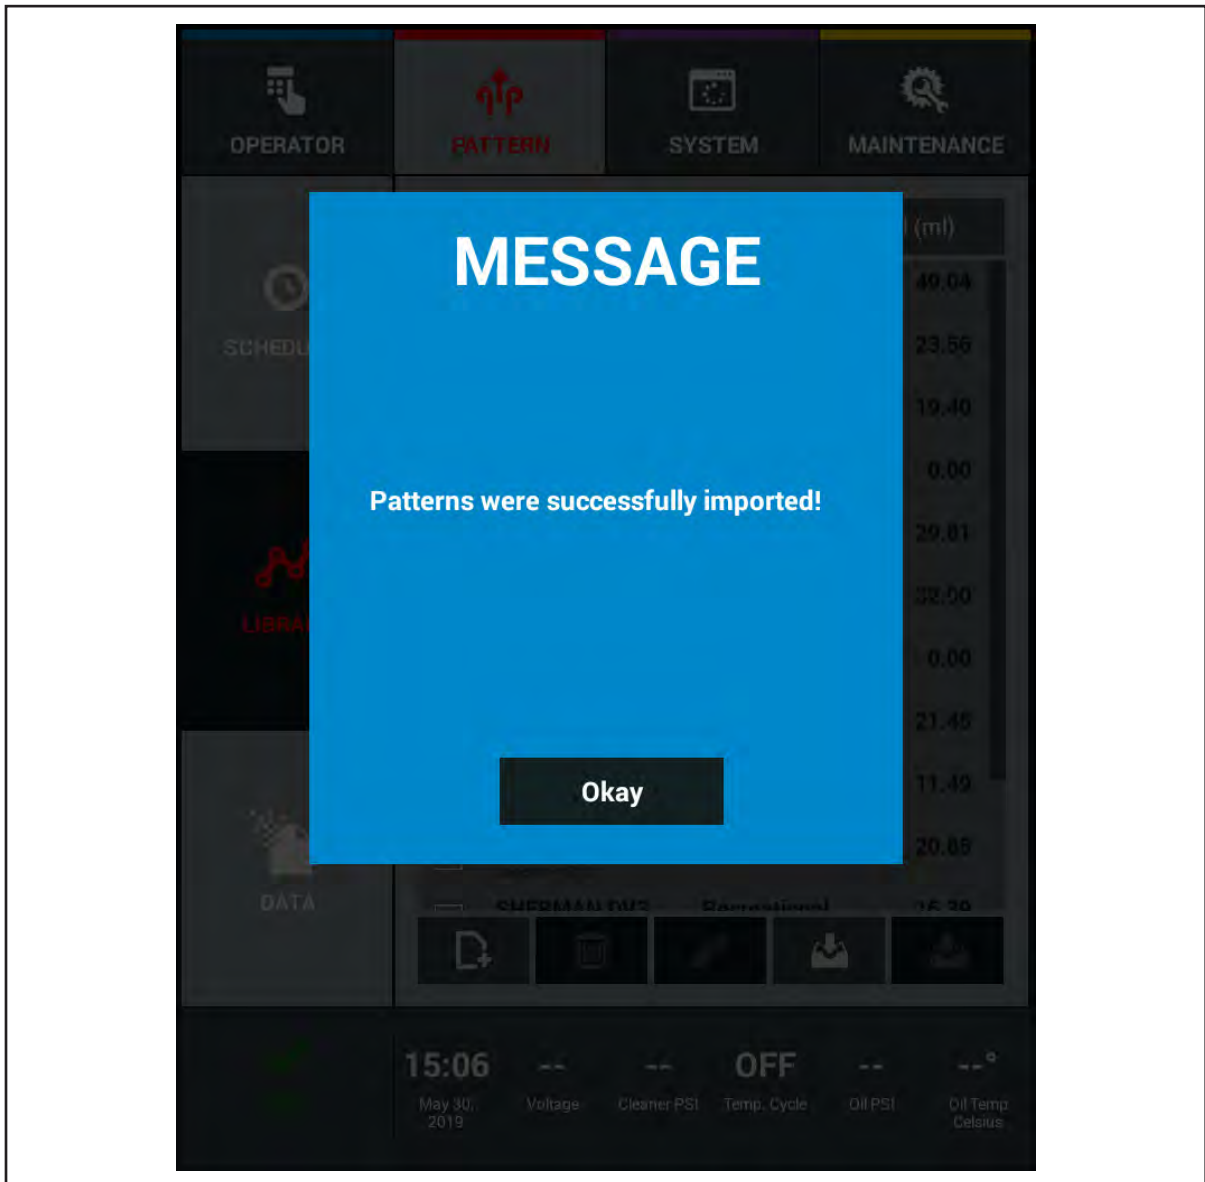

Figure 8-8. Import Successful Message
4. Select the pattern(s) you wish to download to your tablet and press OK. You will see a pattern download progress bar followed by a message that the pattern was successfully imported. Refer to *Figure 8-8*.